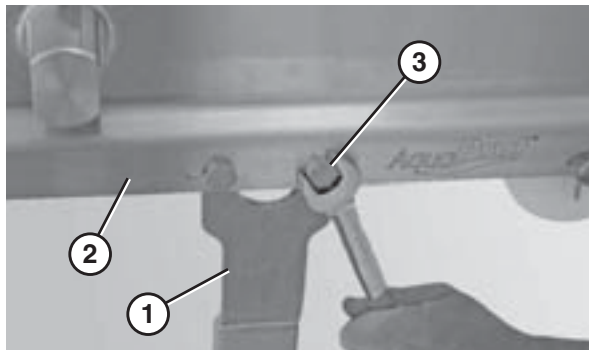

Figure 15
- Attach the non-quick release side of the stand (Figure 15, item 1) to the MOTOR SIDE of the conveyor (Figure 15, item 2) using two M10-1.5 x 12mm hex head cap screws (Figure 15, item 3).